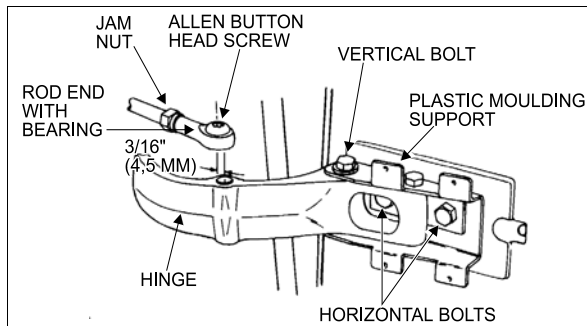

FIGURE 28: UPPER DOOR HINGE 18058
- Remove the Allen button head screw and the washer retaining the rod end with bearing to the upper hinge. See Figure 28.